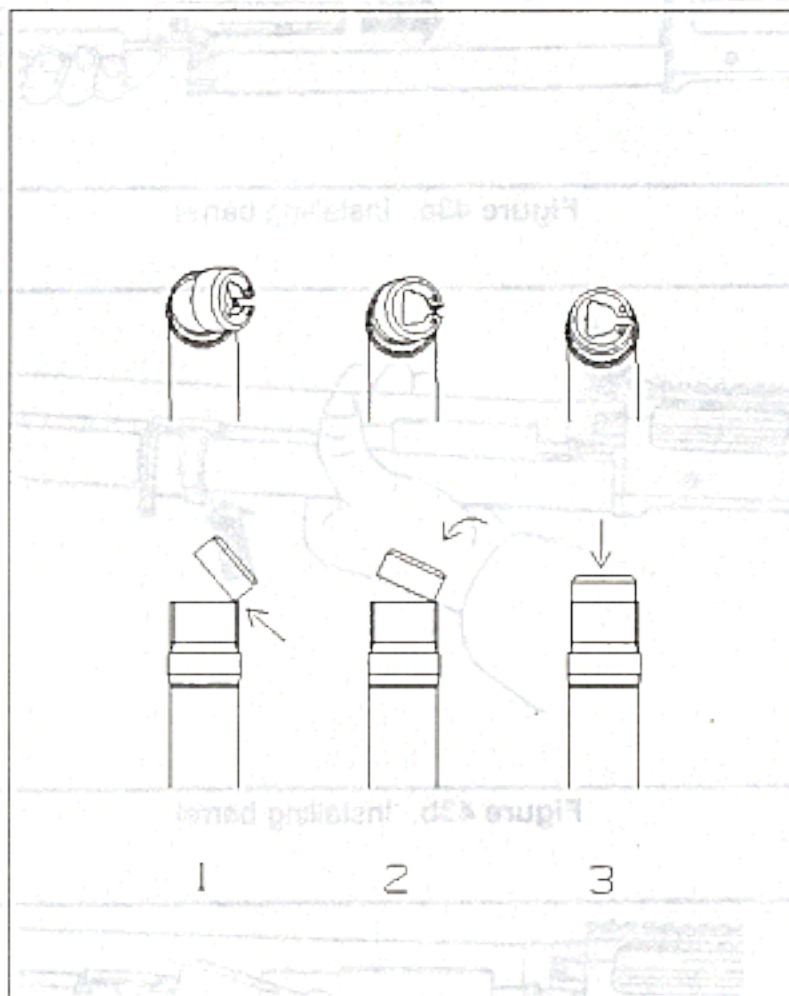

Figure 42. Installation of magazine spring seal ring
- C. Insert the magazine spring seal ring. Squeeze and press down from the top and rotating forward until the spring seal is set (**Figure 42**).